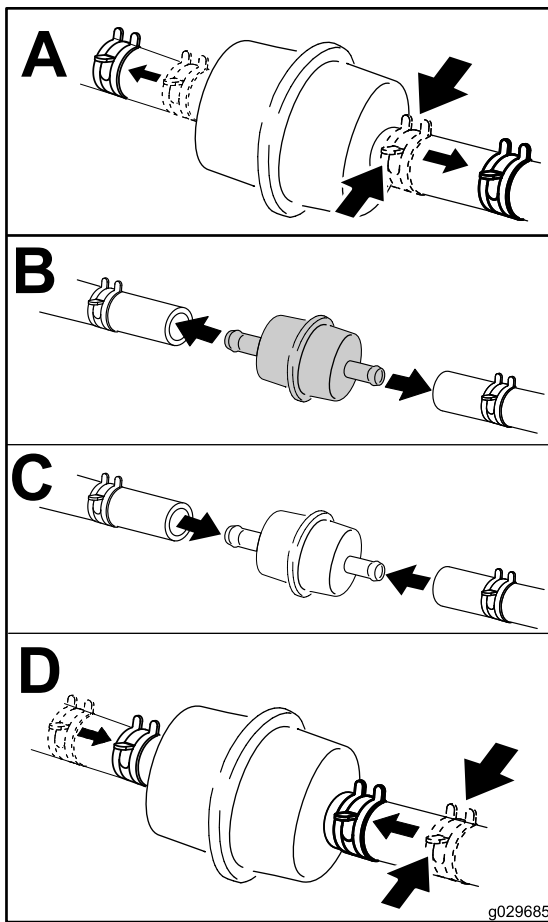

Figure 80
4. Close the fuel-shutoff valve under the seat (Figure 80).